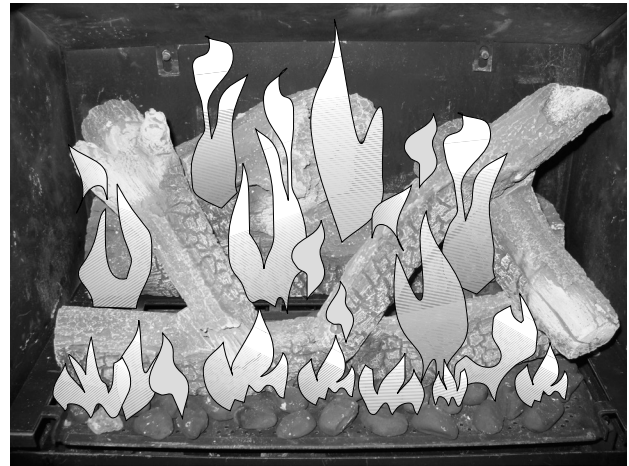

Figure 43. Normal flame picture.
3. **MANUAL BURNER ADJUSTMENT:** This stove is equipped with a variable gas control valve that allows manual adjustment of the flame height and heat output. To adjust the flame intensity, rotate the regulator knob. Flame height will adjust approximately 50% between the LOW and HIGH settings. See fig. 43, page 24. NO SMOKE OR SOOT SHOULD BE PRESENT. CHECK LOG PLACEMENT IF ANY SOOT OR SMOKE IS PRESENT. IF SOOT OR SMOKE PERSISTS, THE AIR SHUTTER MAY NEED TO BE ADJUSTED.